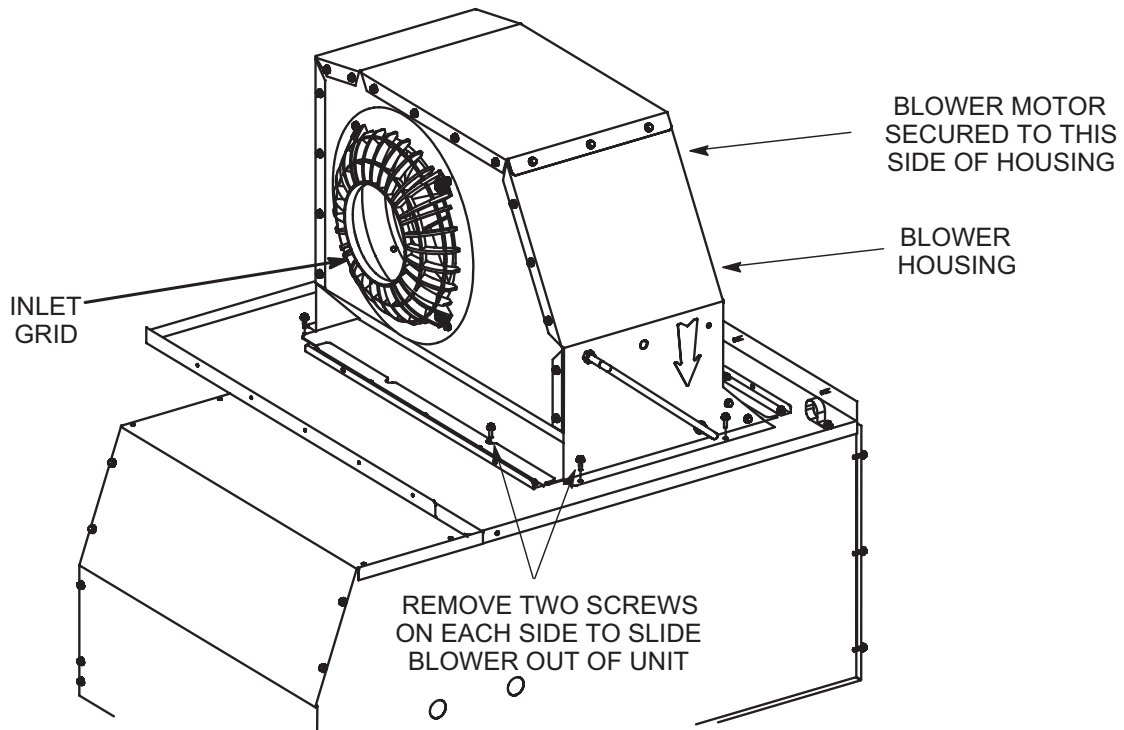
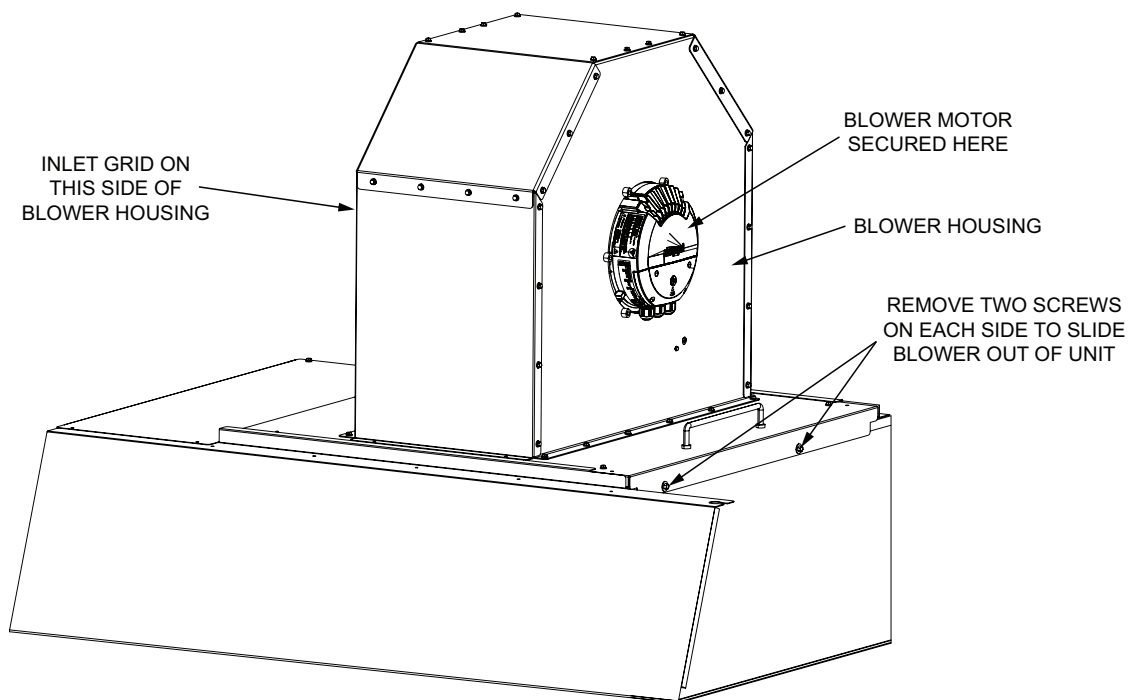

FIGURE 28
FIGURE 29
- 2 - Remove and retain screws in front and on either side of blower housing. Pull frame toward outside of unit. See FIGURE 28, FIGURE 29, and FIGURE 30.